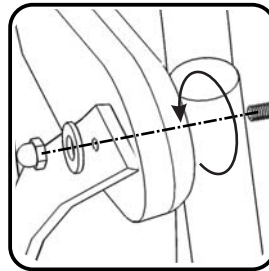

Figure 4
Orientate Top Rail (C) so the 'Arrow' sticker is at back of unit, then attach Top Rail (C) and a Back Rail (E) to unit with Bolt (long) Small Flat Washer and Nut Cap. (See Figure 4)